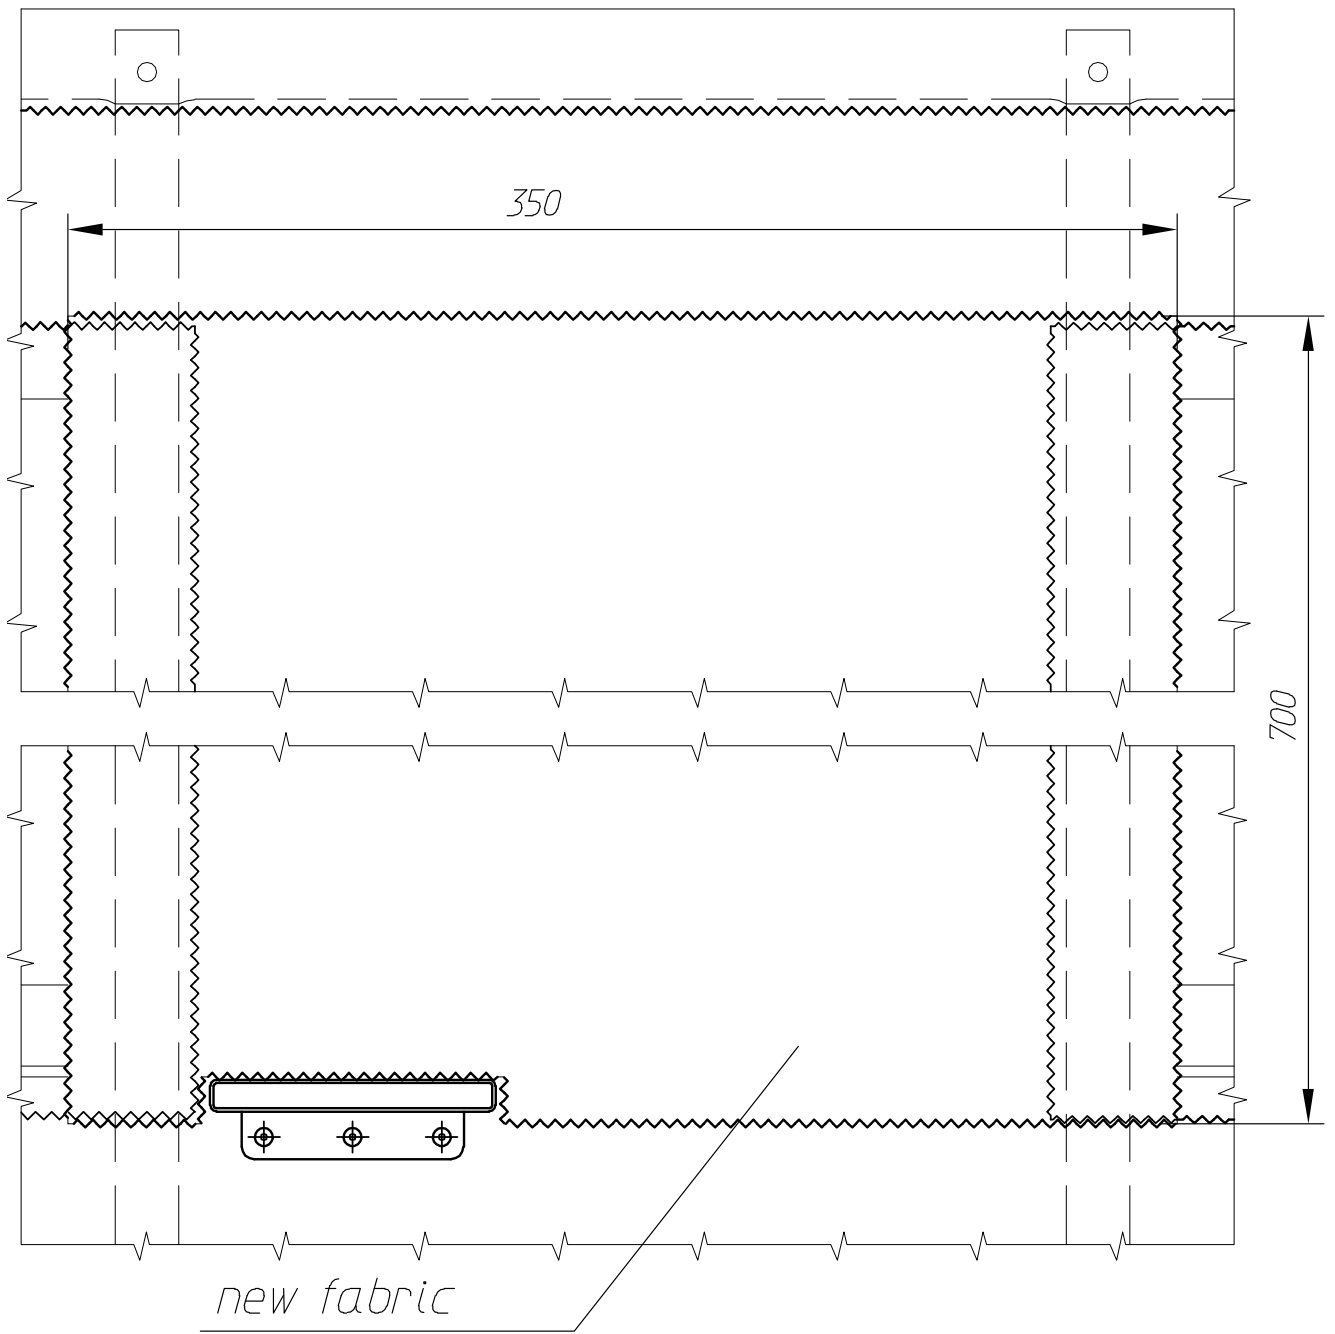

Fig. 4
- 6) Lay preliminarily the fabric down on the repaired surface, mark and make cut-outs around the strut attachment fitting and remove the fabric (fig. 4).